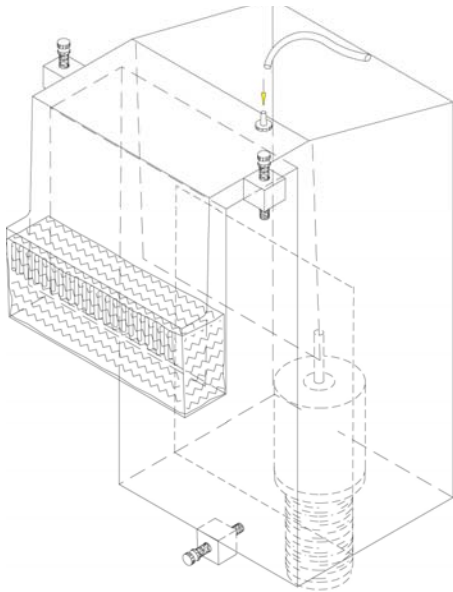

Fig. 1
6. Adjust the height of the unit with the two top adjustment screws so the water level is about  $\frac{1}{4}$ " above the edge of the front chamber.(FIG 1) Make sure that the overflow is level with the water surface, not necessarily the tank, as some tanks may not be perfectly level.